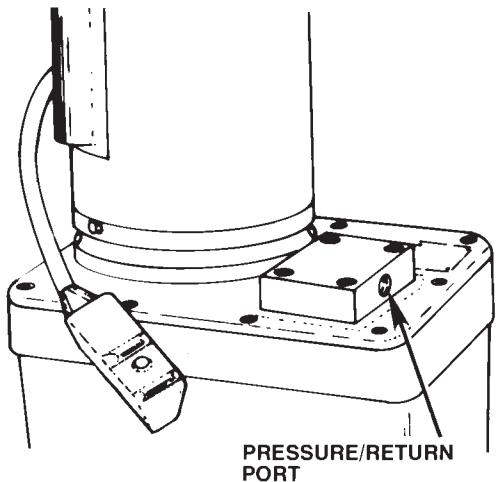

FIGURE 1
1. Remove the pipe plug from the pressure/return port located on the manifold block (see Figure 1).